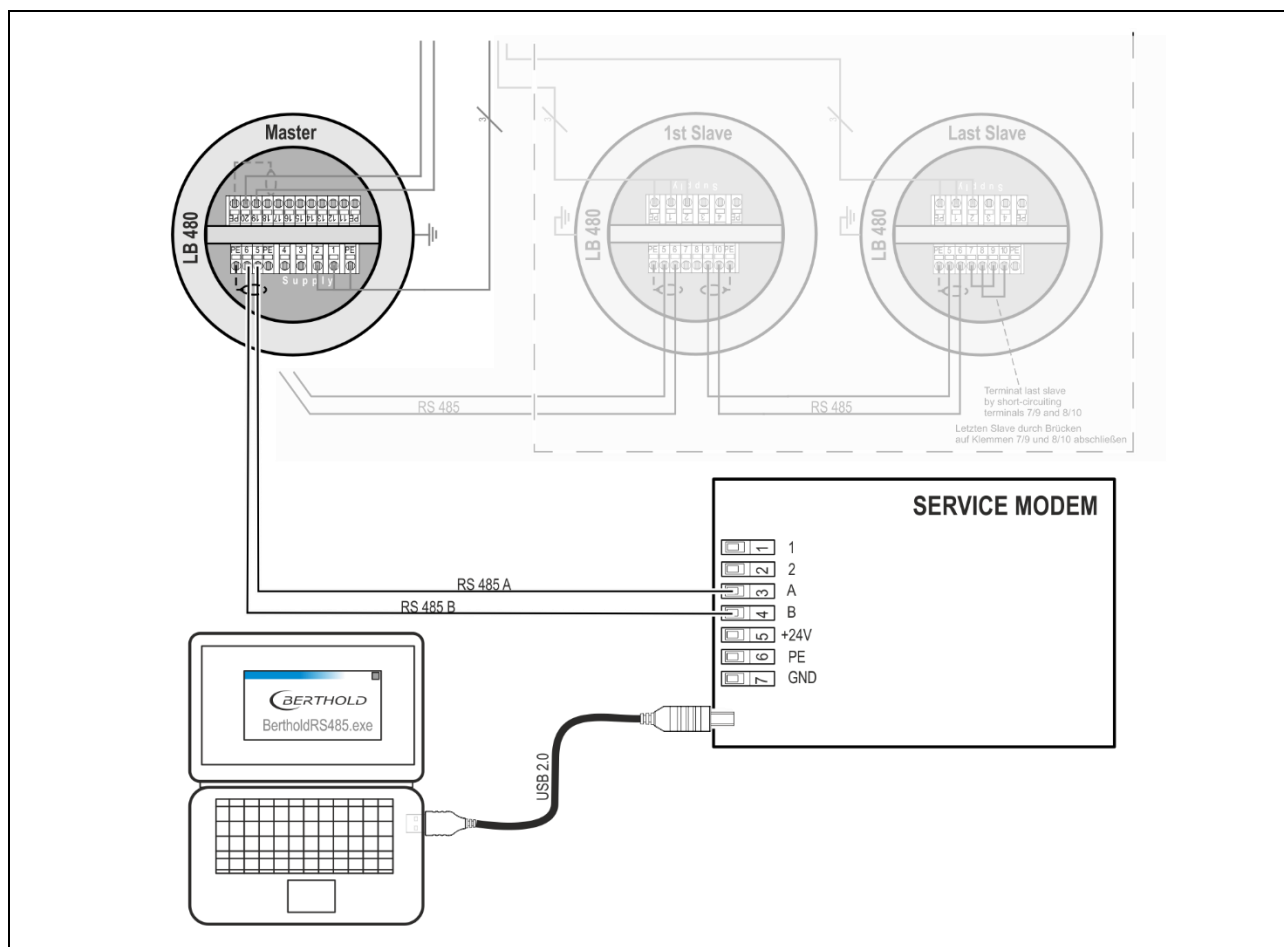

Fig. 1 Connection diagram Master detector – Service modem – PC
9. Disconnect the RS485 connection to the slave detector (terminals 5 and 6). Then connect the master detector to the service modem via this RS485 interface, see connection diagram Fig. 1 and the table below. The power supply of the detector must not be interrupted during the software update.